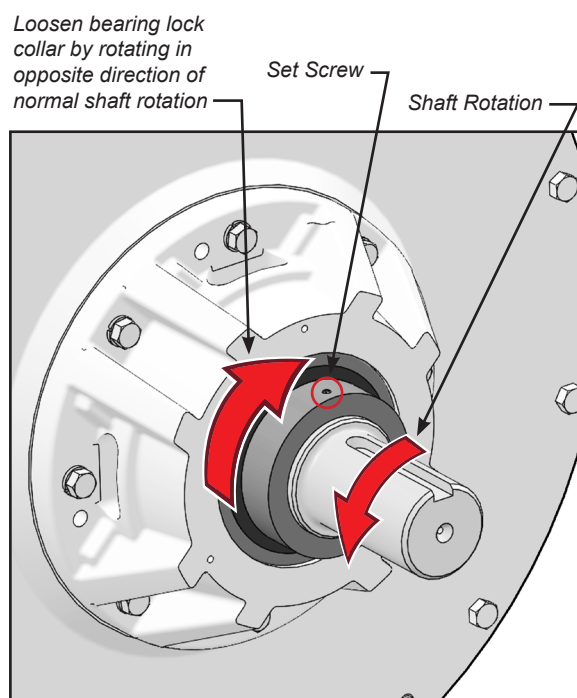
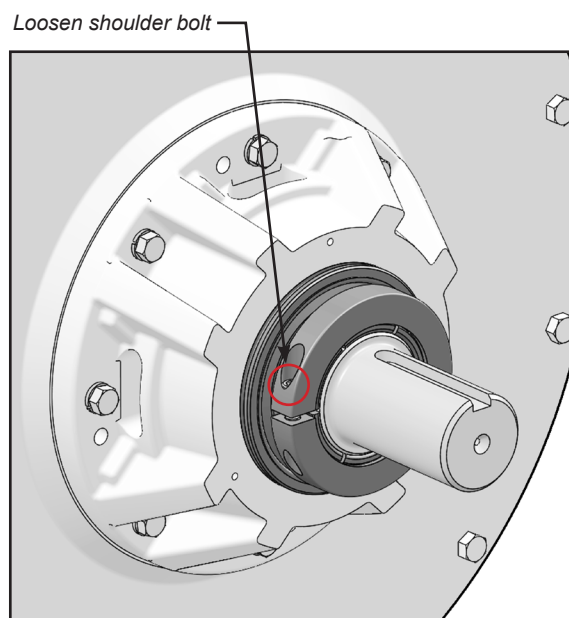

FIGURE 8
FIGURE 9
5. Loosen bearing lock collar set screw (Figure 8); *shoulder bolt for VJX 18x12x12 thru 24x20x20 using SealMaster Bearing* (Figure 9).
6. Disengage bearing lock collar from bearing by turning it using a punch and hammer. Loosen by rotating the collar in the direction opposite of normal shaft rotation (Figure 8); *not necessary for VJX 18x12x12 thru 24x20x20 using SealMaster Bearing* (Figure 9).
29. Lock bearing in place by locking eccentric lock collar in direction of rotation and tighten set screw (Figure 8); *shoulder bolt for VJX 18x12x12 thru 24x20x20 using SealMaster Bearing* (Figure 9).